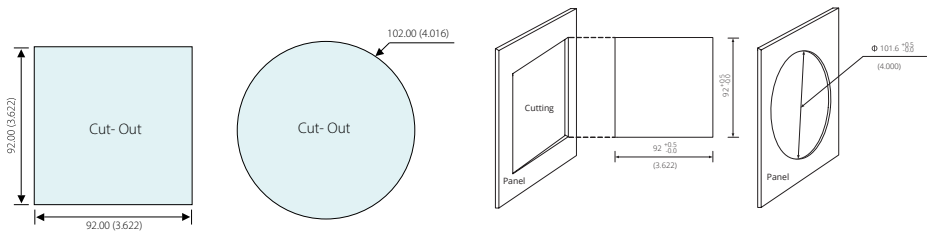

Figure 2-9 Panel Cutout
1. Cut a square hole or round hole on the panel of the switch gear. The cutting size can be seen in Figure 2-9.